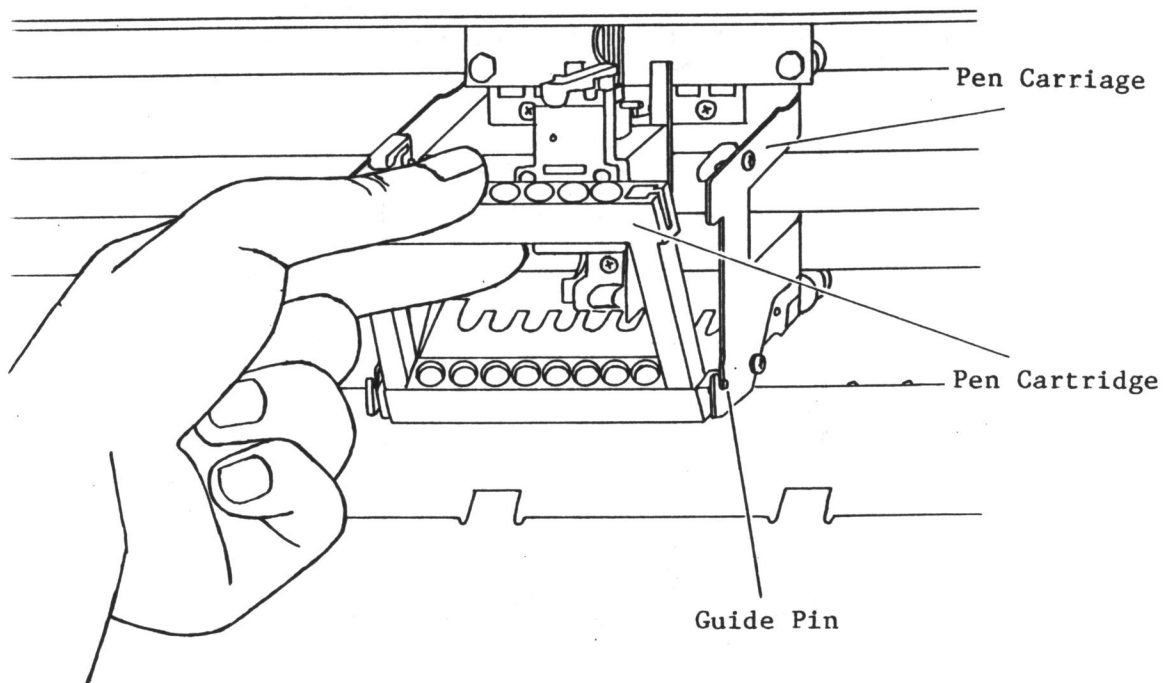

Figure 1-10
2. Pull forward on the removable pen cartridge in the pen carriage (see Figure 1-10) and lift it out. This procedure is the same for the four slot pen cartridge.
4. Replace the pen cartridge (refer again to Figure 1-10). Place the guide pins in their slots and then snap the top back into place. The regular pen cartridge is reversible, so it doesn't matter which side is facing out.